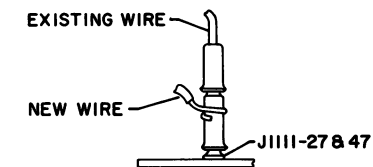

FIG. 3
- b. REMOVE ANY WIRES WHICH MAY BE AT 2 TERMINATION LOCATIONS (J1111-27 & 47). ASSEMBLE NEW WIRES AND PRESS ON EXISTING WIRES AT TOP OF NEW TERMINALS AS SHOWN IN FIG. 3.